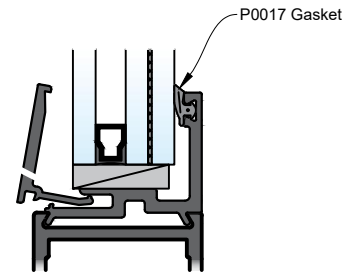

Fig. 17.2
- G. Install vertical glass stops first by sliding the leg of E6523 or E6533 into the glazing gutter. **SEE Fig. 17.2**